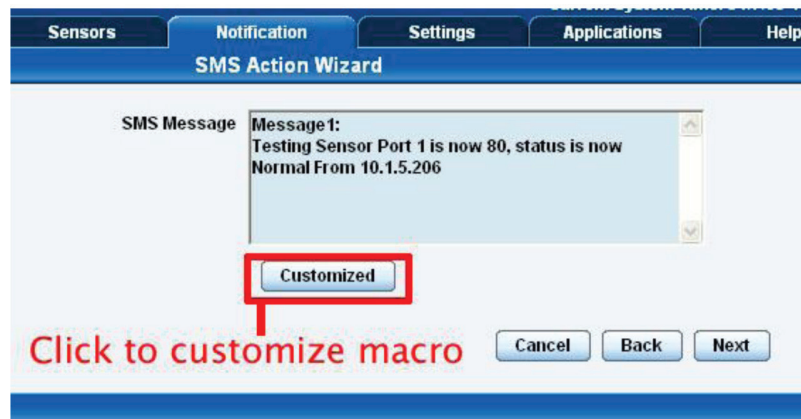

Figure 4-24. Customize Macro screen.
3. Now we will set up the message that will be sent to the phone. You will see the screen shown in Figure 4-24. Click the “Customized” button to add a macro to your notification.